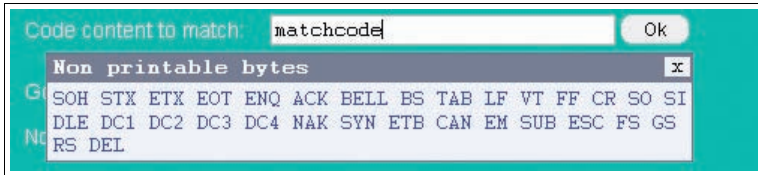

Figure 7.9 Tooltip matchcode
- **Comparison code:** The comparison code is entered here. When the mouse is moved over the comparison code input window, the popup menu containing the nonprinting characters appears → see Figure 7.9 on page 30.